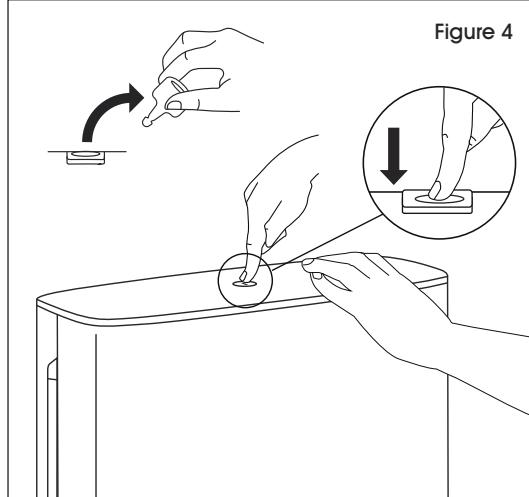

Figure 4
3. Remove key and push in lock to open dispenser. (See Figure 4)